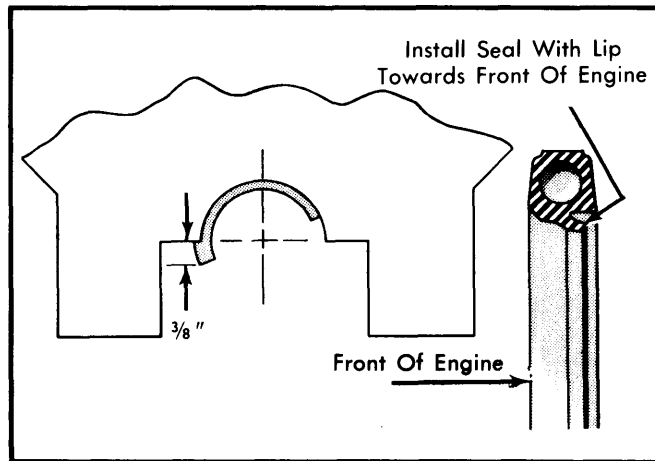

Fig. 10 Split Lip Type Rear Main Bearing Oil Seal
2) Remove oil seal pin from bearing cap (if equipped). Discard pin. Dip seal halves in engine oil. Install upper seal in groove with undercut side of seal toward front of engine by rotating it on seal journal until $\frac{3}{8}$ " protrudes below parting surface. See Fig. 10. Tighten main bearing cap bolts.